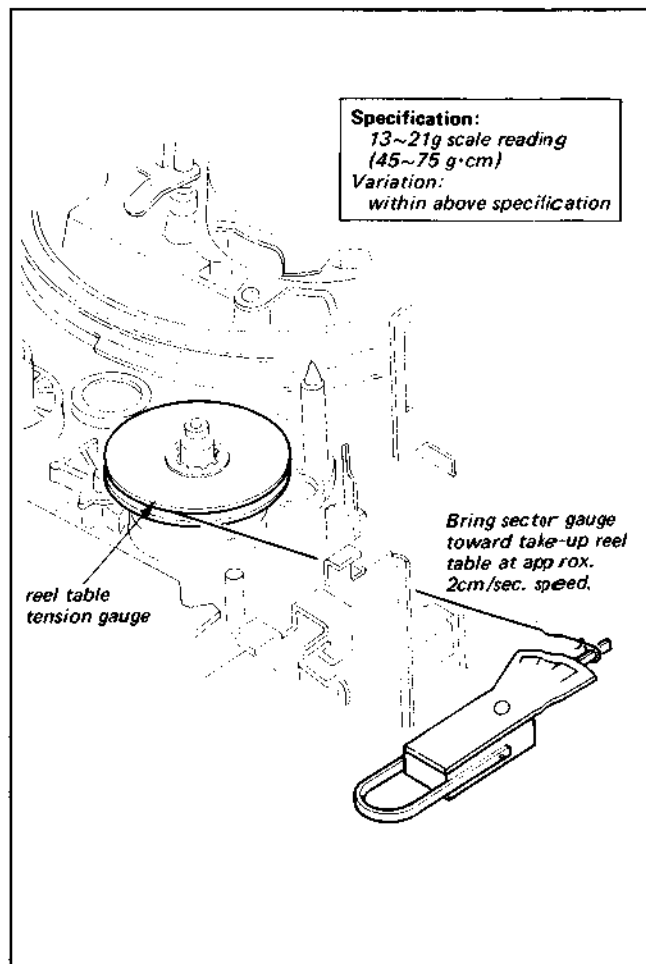

Fig. 3-39. Check of cassette eject torque
2. Attach the reel table tension gauge (Tool Kit Ref. No. J-5) as shown in Fig. 3-39.
5. Bring the sector type gauge toward the take-up reel table at a speed of approx. 2cm/sec. during the unthreading as shown in Fig. 3-39. Confirm that the gauge reading is within the specification. If not, replace the E limiter assembly (X-3659-301-0) of the threading unit section and make the confirmation again.